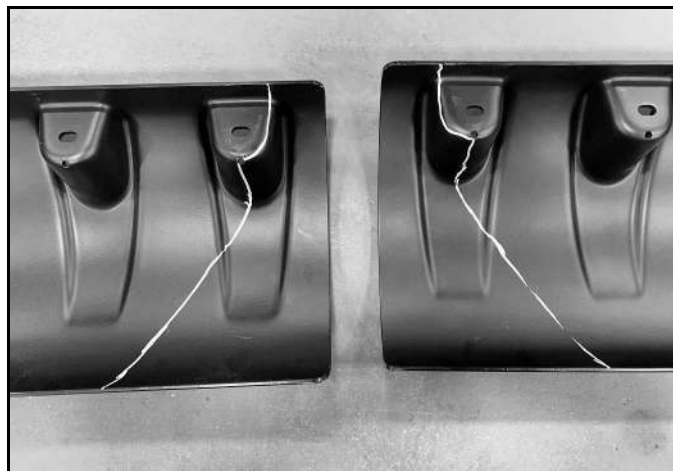

Figure 3
6. Lines should appear as in Figure 3. Cut along lines with a reciprocating saw. File edges smooth.